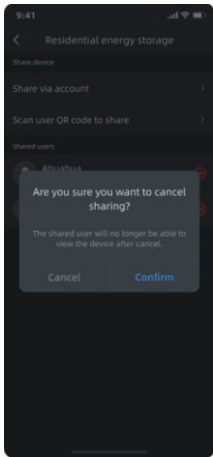

Figure 2
- 2)Figure 2: Click "**Confirm**" to remove the other party's sharing permission;Click '**Cancel**' to keep the sharing.